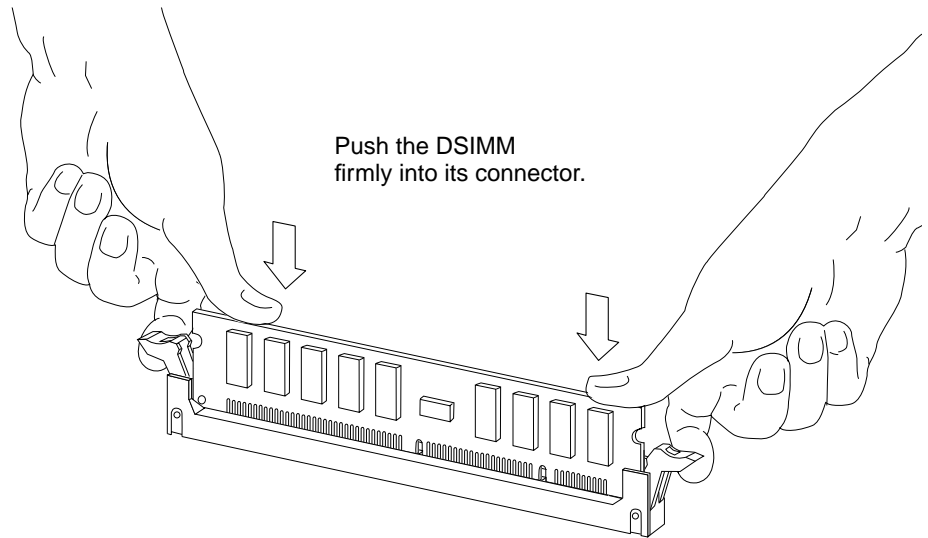

FIGURE 11-22 Installing the DSIMM
4. Place your thumbs as shown in FIGURE 11-22 and push the DSIMM firmly into its connector.